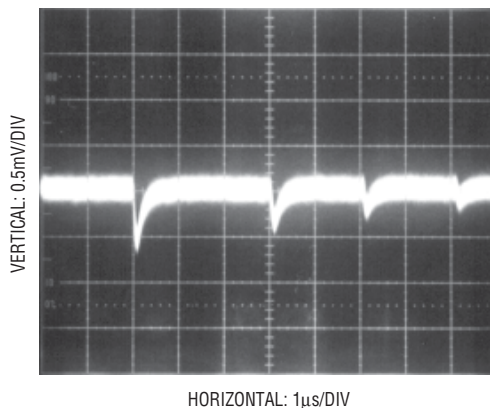

Figure 15. Adequate Reference Settling
1. Transients on the reference inputs caused by the capacitive switching currents must settle completely during each bit test (each 4 ACLK cycles). Figures 15 and 16 show examples of both adequate and poor settling. Using a slower ACLK will allow more time for the reference to settle. However, even at the maximum ACLK rate of 4MHz most references and op amps can be made to settle within the 1 $\mu$ s bit time. For example the LT1236 will settle adequately.